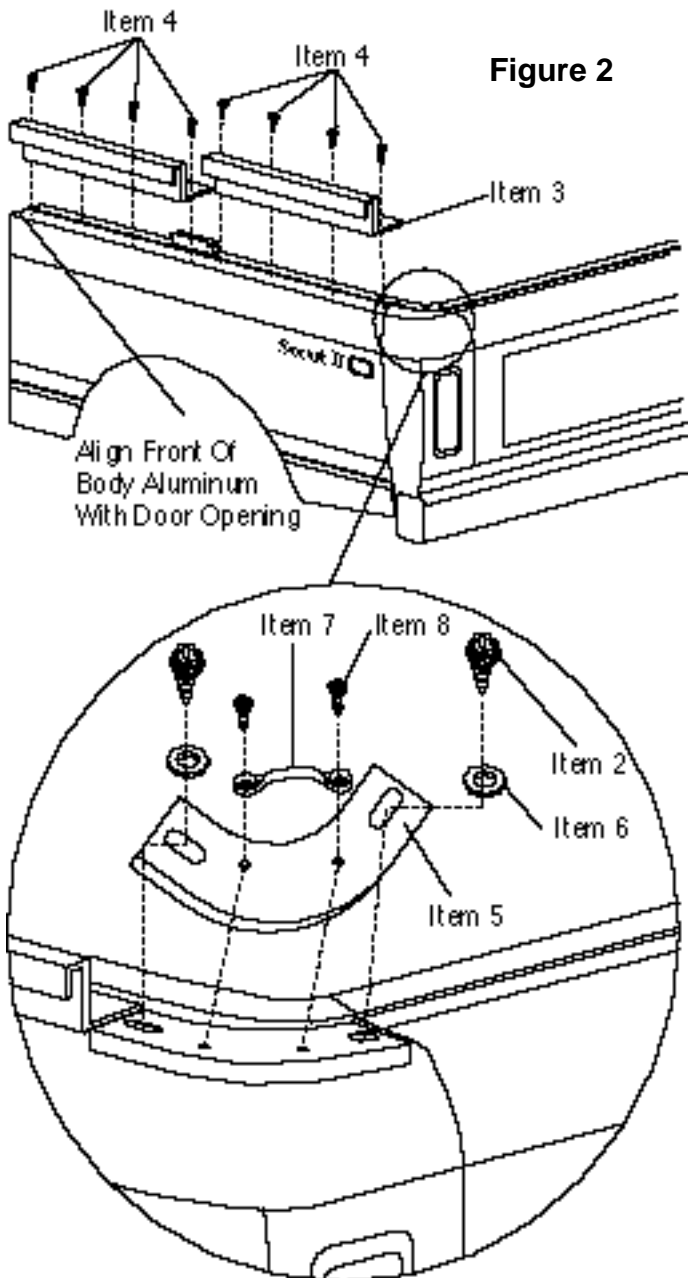

Figure 2
Step 2. Body Aluminum. Locate first piece of body aluminum (Item 3) just outside slight drop in body edge. The front of the body aluminum should be even with rear of door opening and parallel with outside edge of body. Using body aluminum as a template, mark and drill 1/8" holes. Secure to body with #10 x 1/2" sheet metal screw (Item 4). Butt another piece of body aluminum up to body aluminum just installed and secure to body. Repeat for the other side. See figure 2.